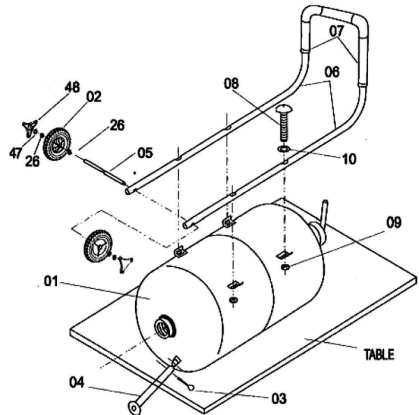

Figure 2
5. Lay the Abrasive Blast Tank on a flat level surface (such as a workbench or table top), with the handlebar mounting brackets facing up. (Figure 2)
6. Align the 4 holes in the Handlebar (06) with the four holes in the handlebar mounting brackets. Note: Keep the curved end of the handle facing upward.